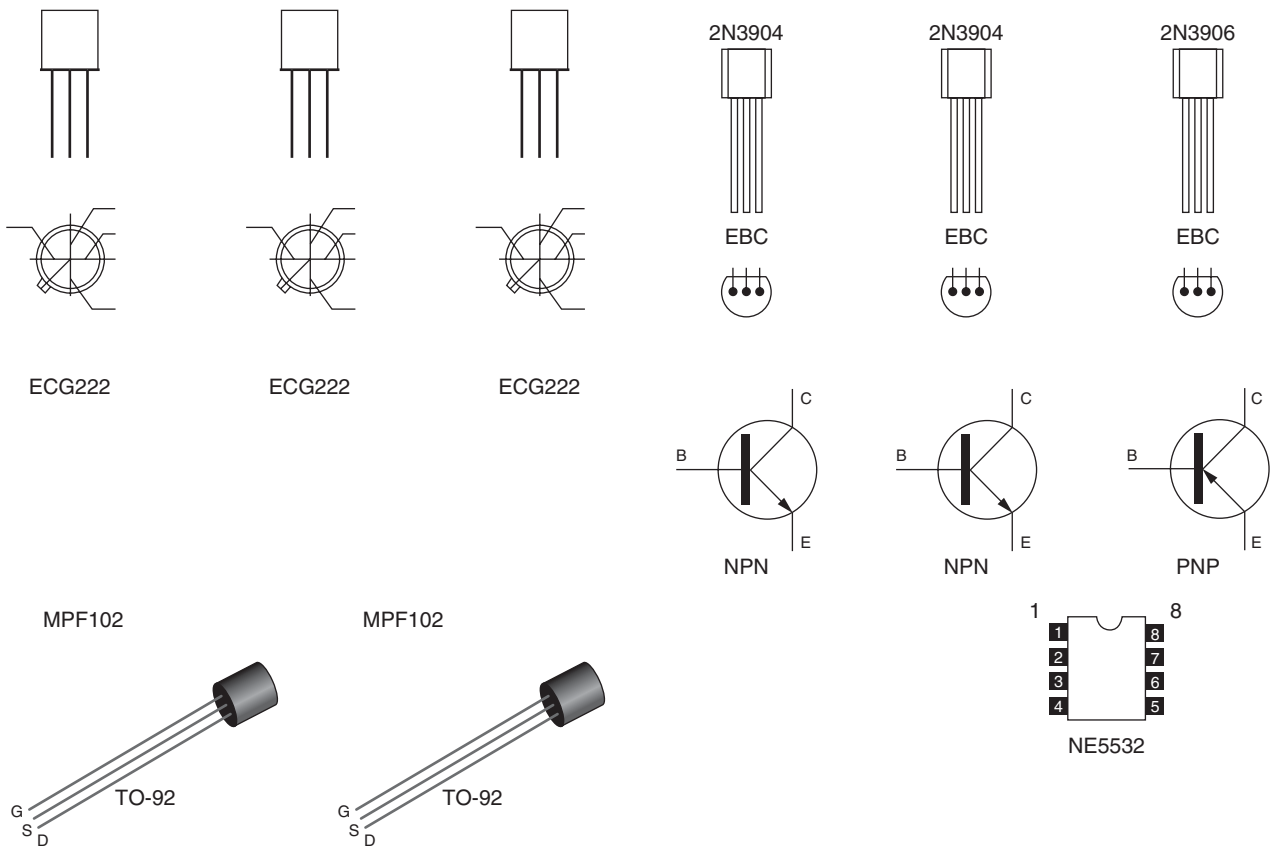

Figure 10-5 Semiconductor pin-outs
Before we attempt to install the semiconductors, take a quick look at the semiconductor pin-out diagram shown in Figure 10-5. Now locate the MOSFETs Q1, Q2 and Q3. These devices are very static sensitive and must be handled very carefully using an anti-static wrist-band to avoid damage before they are soldered into the circuit. Transistor sockets are highly recommended for all of the transistors, see the pin-out diagram for the MOSFETs and make sure you can identify each of the leads before placing the MOSFETs on to the circuit board. The MOSFETs have two Gate leads, G1 and G2, as well as a Source lead (S) and a Drain lead (D). Once you are sure of each of the leads, you can go ahead and install the MOSFETs onto the circuit board. The AM detector portion of the receiver utilizes two nJFETS at Q4 and Q5, these semiconductors are also static sensitive and must be handled with extreme care to avoid damage. The nJFETS have three leads, like most conventional transistors, but they have a Gate, Source and Drain lead,